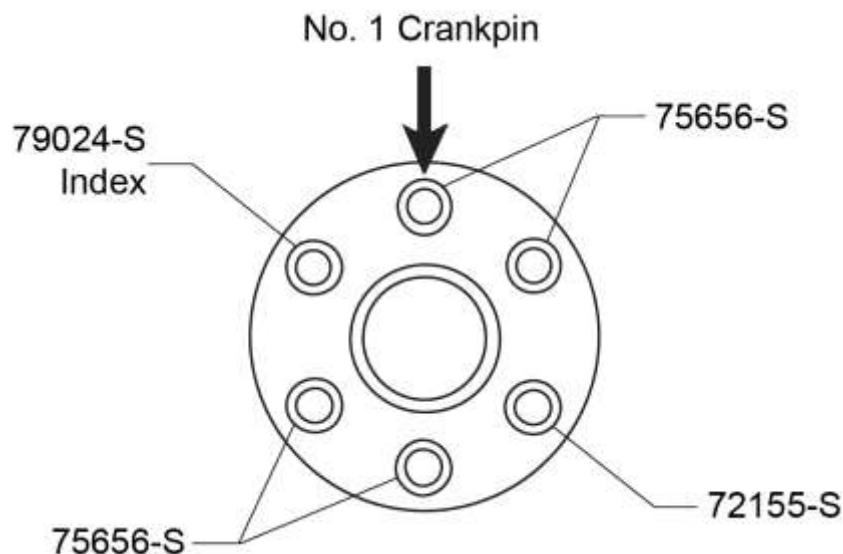

Figure 1
- A. Refer to Figure 1 or the latest revision of the *TEO-540-A1A Illustrated Parts Catalog* to identify the correct bushing part numbers for your engine and the location of each bushing.
- B. Use the Propeller Flange Bushing Remove/Install Tool ST-115 to install the bushings of the correct part number on the propeller flange in the location designated for your engine model specified in Figure 1.